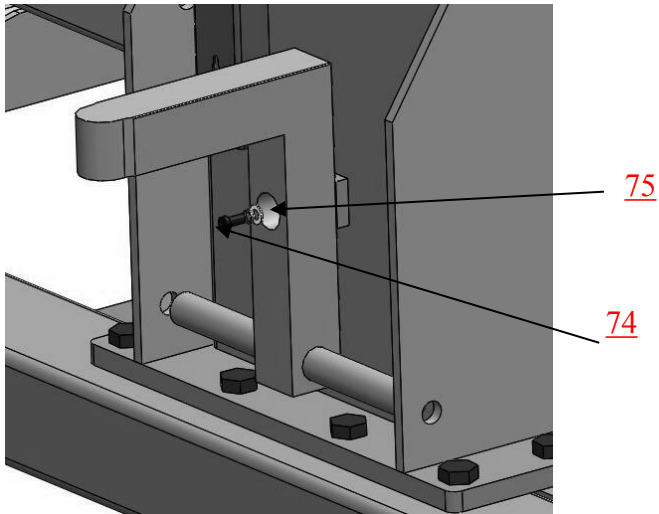
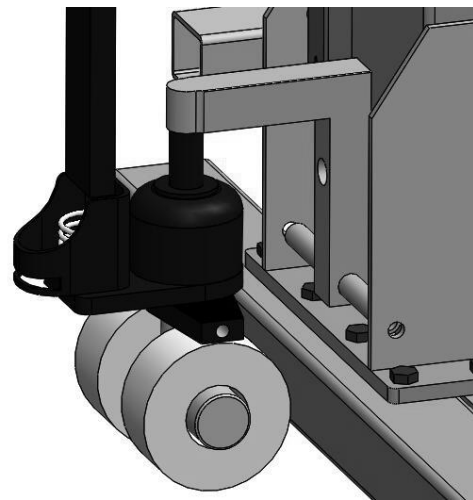

Fig.19
Fig.20
1. First tighten the wheel assembly fixed square pipe by socket bolt with lock washer $\phi 12$ (**Fig.19**). Put the wheel assembly into the fixed square pipe then tighten it. (**Fig.20**),